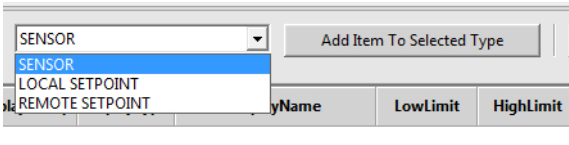

Figure 34: Plant Editor - Add Type Member
3. Add a new type member: Select the kind of the type member from the dropdown list (Figure 34), and then click “Add To Selected Type.” The name of the new type member, by default, is ITEM_X (X: next available number). You can change the name or other fields of the type member by clicking on the cell and entering or selecting the new values (Figure 35).